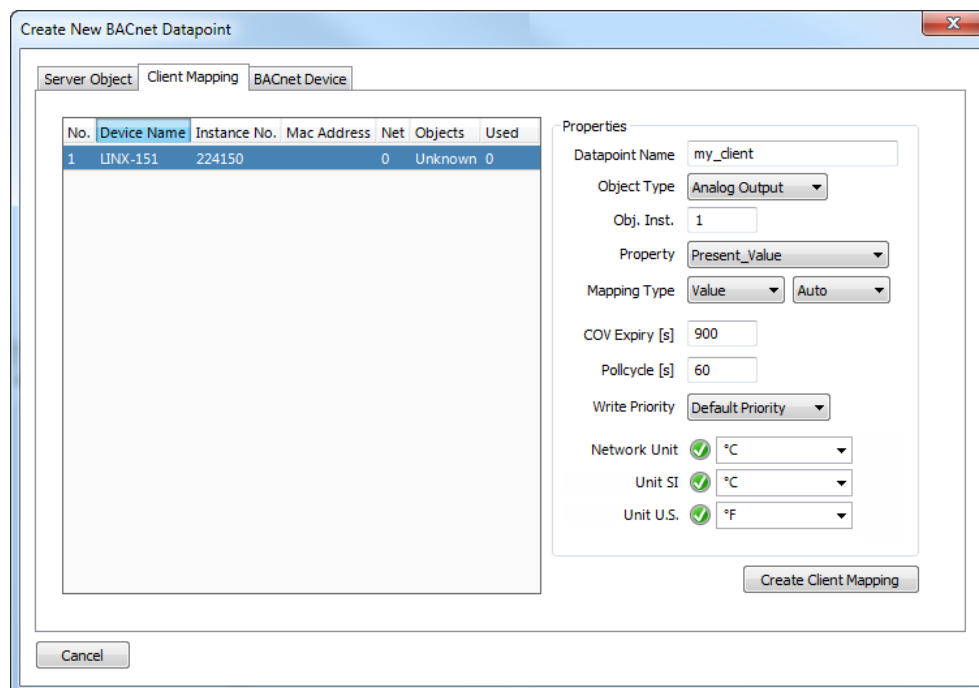

Figure 125: Create Client Mapping Dialog.
2. Right-click in the data point list and select **New Datapoint...** in the context menu. This opens the **Create New BACnet Point** dialog as shown in Figure 125.